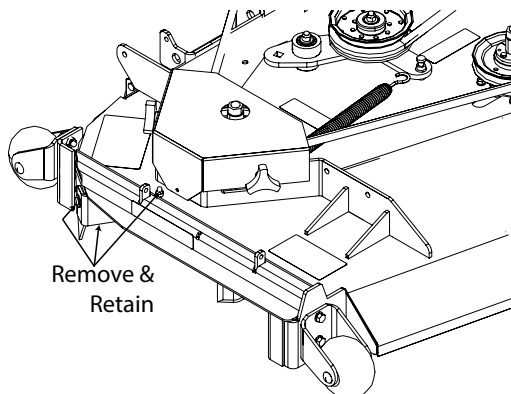

Figure 3-10. Removing the Turbo Baffle
8. Install one (1) 5/16-18 x 3/4" bolt and one (1) 5/16-18 elastic stop nut. Do not tighten the hardware.
9. Install the template to locate the mounting holes for the lever assembly. Secure to the cutter deck using the turbo baffle mounting hardware removed in step 5. See Figure 3-10, Page 10.
10. Hold the template against the discharge chute mounting rail and tighten the hardware. See Figure 3-10, Page 10.
11. Center punch and drill the mounting holes using an 11/32" drill bit. See Figure 3-10, Page 10.
12. Carefully lay out the remaining mounting holes for the front hinge bracket in the cutter deck. See Figure 3-10, Page 10.